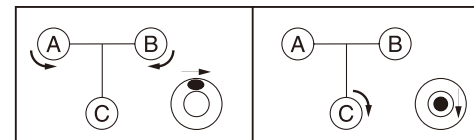

fig. 1
4. Align the instrument with leveling screw 9 so that the air bubble is in the center of the circular vial (see fig. 1)